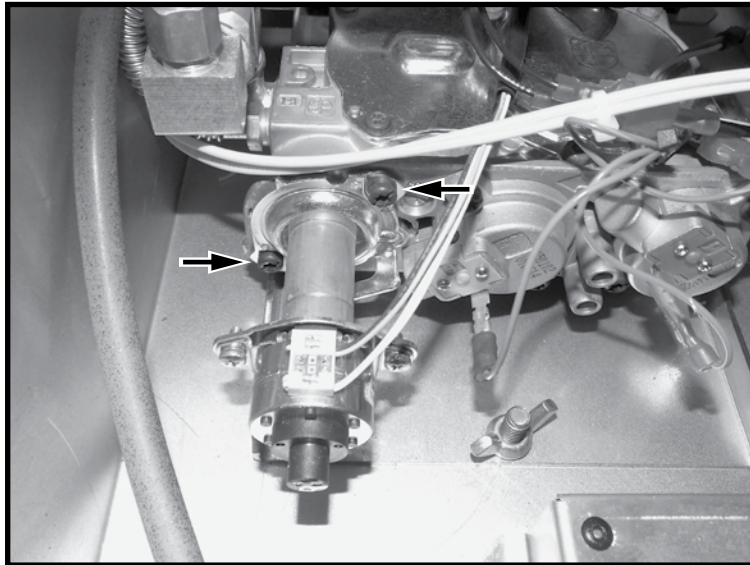
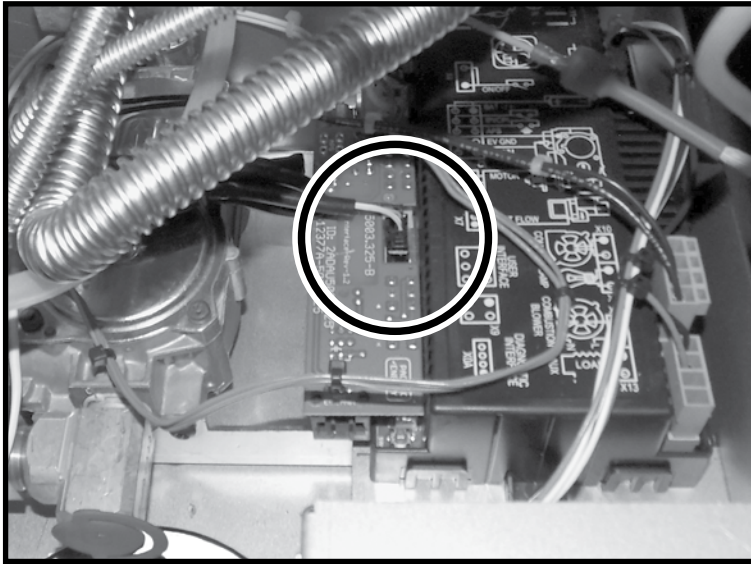

Figure 49: Stepper screws access.
Figure 50: Stepper connector location.
3. Locate the stepper (Figure 49) and follow its wires back to its electrical connection and disconnect (Figure 50).
4. Return to the stepper and locate and remove the two screws attaching the stepper to the valve (Figure 49). Discard these screws and use the two new screws included in the conversion kit.